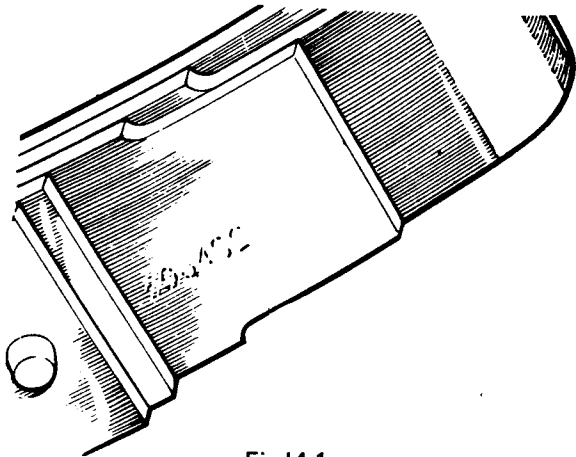

Fig 14.1
- (1) Refer to Fig 14.1. The driver side and passenger side road springs are interchangeable. Springs are identified with the part number which is marked on the top face and on the under face of one of the leaves.
- (2) Jack up the vehicle and support on stands.
- (3) Remove the road wheel.
- (4) Support the axle with a jack.